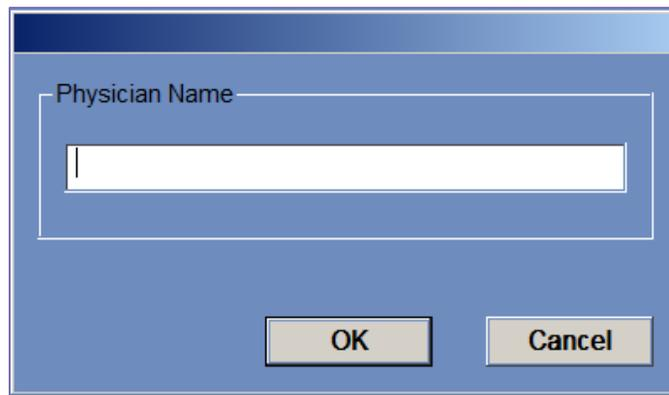

Figure 4-3: Treatment Data Dialog Box
1. Click **TREATMENT** on the **Start-Up** screen; the treatment data dialog box is opened (see Figure 4-3)